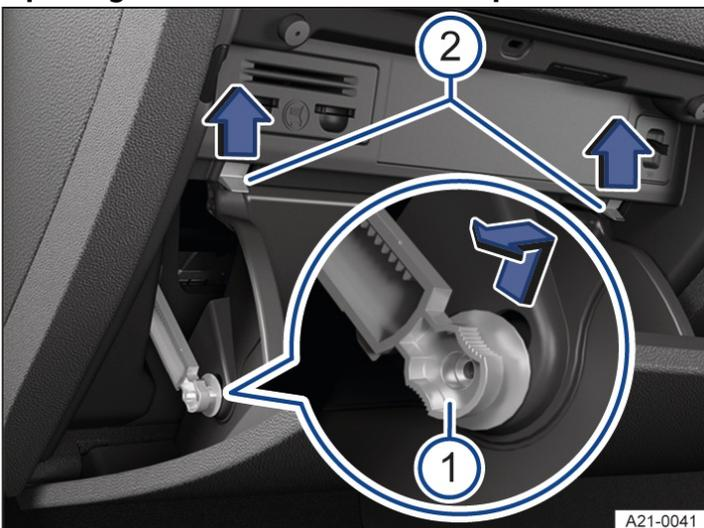

Fig. 2 In the dash panel on the front passenger side: fuse box cover in the dash panel (right-hand drive vehicle)
2. Push restrictor upwards into the opening of the holder and pull out to the side → *Fig. 2* ①.
3. Push catches upwards in the direction of the arrow at the same time open the stowage compartment further → *Fig. 2* ②.
3. Carefully push the stowage compartment forwards beyond the resistance of the catches → Fig. 2 ².